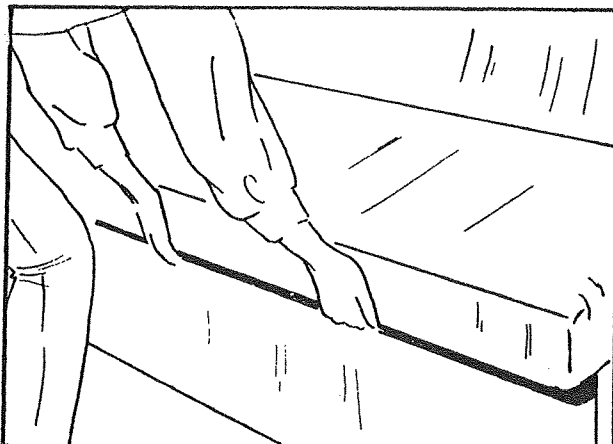

FIGURE 23
30. Lift the backrest off the dinette table and slide the seat cushion inboard. Set the backrest in place against the side wall. Slide the seat cushion in place, making sure that the plastic stops are wedged firmly against the interior of the metal seat frame. (See Figures 23 and 24.)